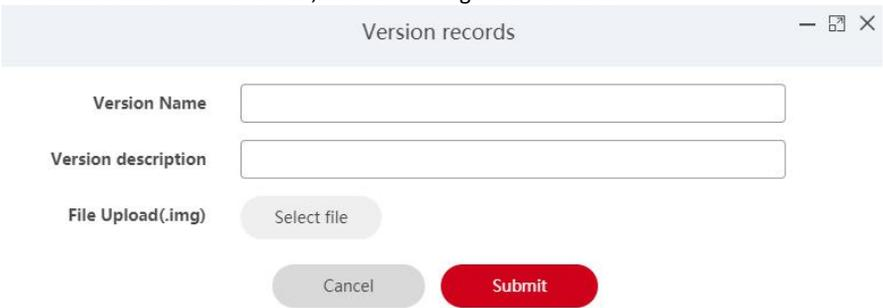

Figure 5-101
Step 2: Click "+" Add", enter the version name and version description, click "Select File" to select the firmware files, as shown in Figure 5-101 below.